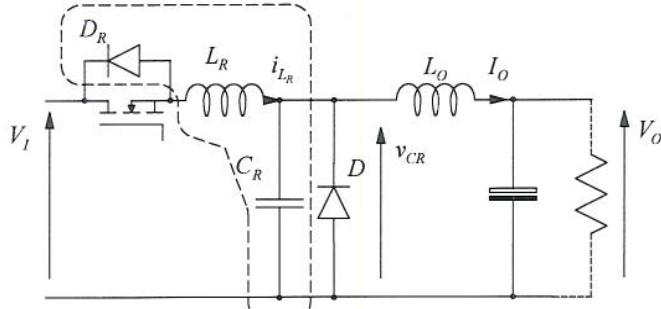

Figure Q5
- (b) It is then proposed that in order to reduce losses, the converter is converted to a soft switched design, as shown in Figure Q5